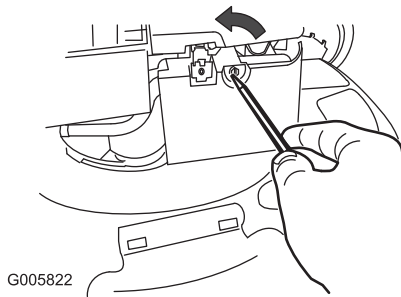

Figure 26
1. Use a screw driver to open the air-filter cover (Figure 26).